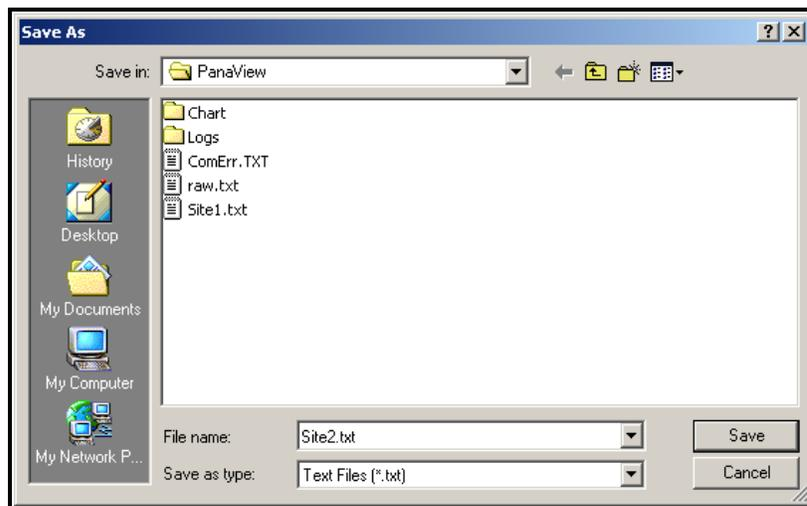

Figure 30: Save As Window
To *save* the raw signal, click *Save*. A window opens similar to the one shown in Figure 30. Enter the desired name, and click *Save* to save the signal as a text file.
2. Click *Save Site to PC*. A window opens similar to Figure 30 on page 121.
1. Highlight the site in the left pane. (See Figure 30 on page 121.)